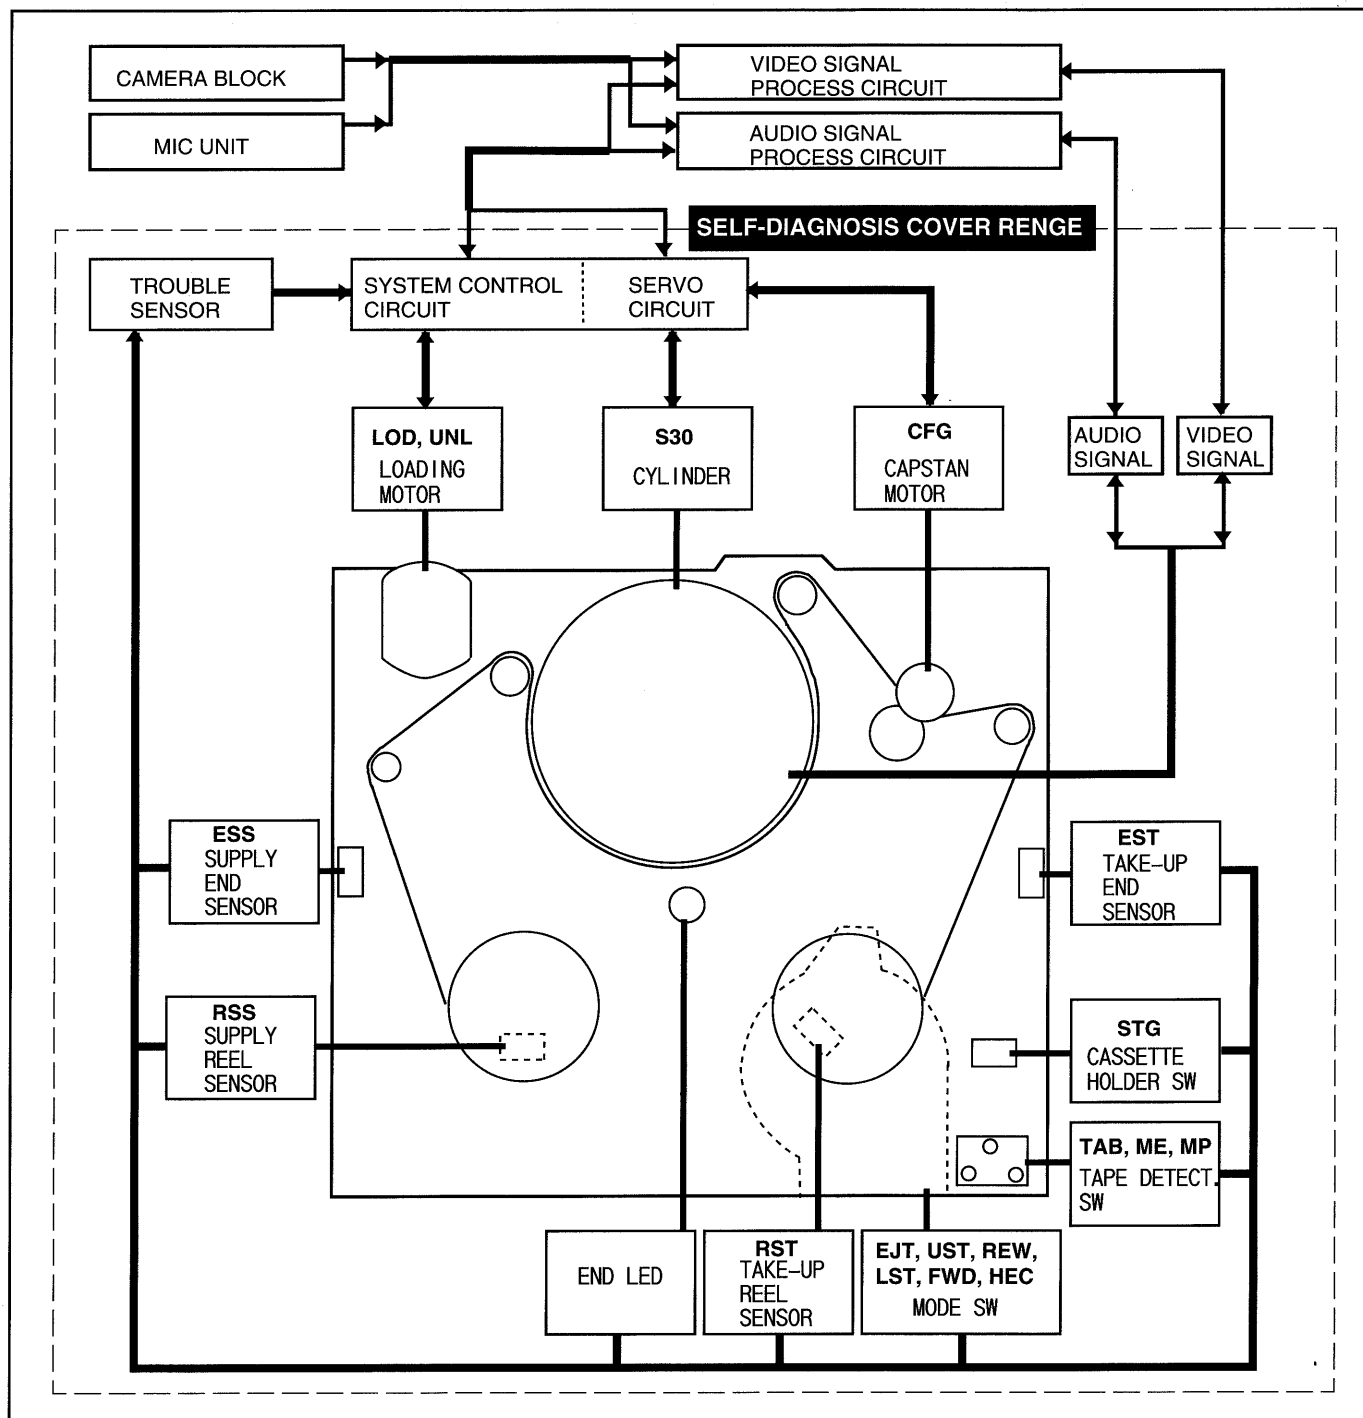

Fig. 1-1 Self-Diagnostic Coverage Range
Fig. 1-1 shows the self-diagnostic coverage range. The self-diagnostic functions of the camera/recorder are engaged by the system control (S) μ P (IC0901) which detects, memorizes and displays data related to defects in the mechanical block control system.